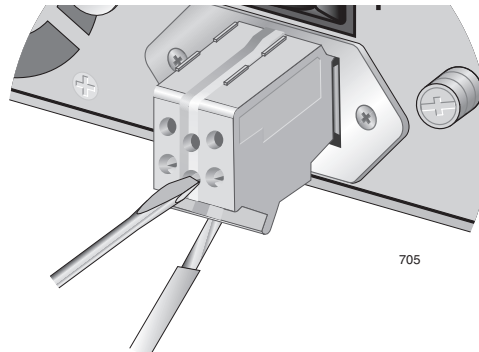

Figure 42. Connecting the Stripped Wire
4. Connect the **frame ground** wire to the terminal marked with the ground symbol by inserting the wire into the terminal and tightening the connection with a flathead screwdriver, as shown in Figure 42.